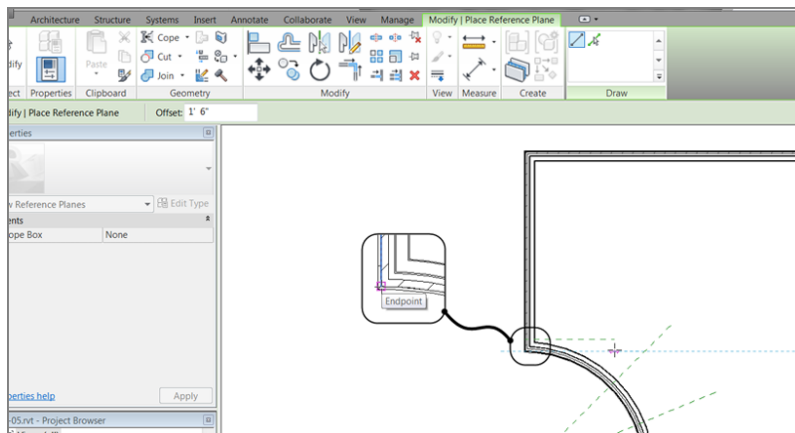

FIGURE 4.17: Creating the reference plane
1. Zoom in on the northwest section of the west wing, as shown in Figure 4.17.
4. Pick the corner of the radial wall, where it intersects the straight wall, for the first point of the reference plane, as shown in Figure 4.17.
5. Pick a second point similar to that shown in Figure 4.17 to finish the reference plane.